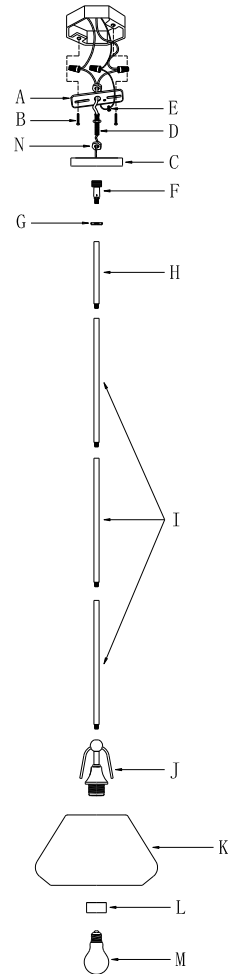

Fig.2
CONNECTING THE WIRES (Fig. 2)
7. Connect electrical wires as shown in Fig.2, making sure that all wire connectors are secured. If your junction box has a ground wire (green or bare copper), connect the fixture's ground wire to it. Otherwise, connect the ground wire directly to the crossbar (A) using the green screw (E) provided.